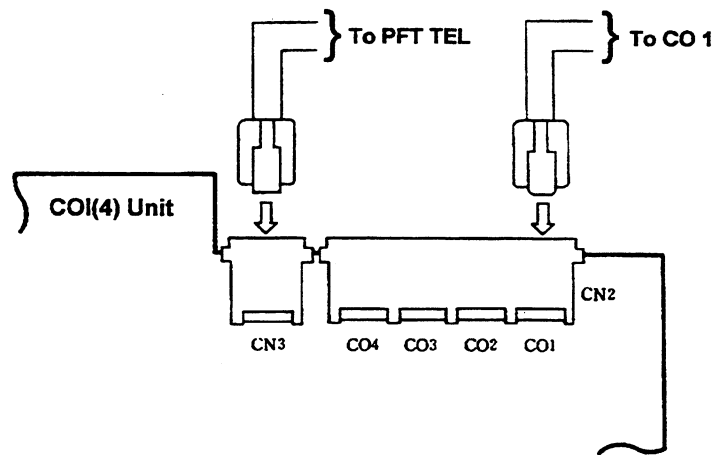

Figure 1-33 Connecting a Single Line Telephone for Power Failure Transfer
Connect the SLT to the modular jack, on the COI(4) Unit, designated for PFT. Only one PFT circuit is provided for CO/PBX line 1. (Refer to Figure 1-33 - Connecting a Single Line Telephone for Power Failure Transfer.)